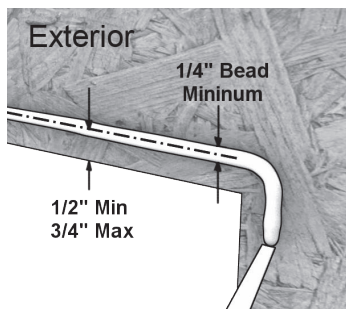

Figure 4
**1d) (Required)** Apply a generous continuous bead of sealant (at least 1/4" diameter) along the top and sides of the rough opening exterior (figure 4) to ensure an adequate seal between the back of the nailing fin and the exterior surface of the rough opening.